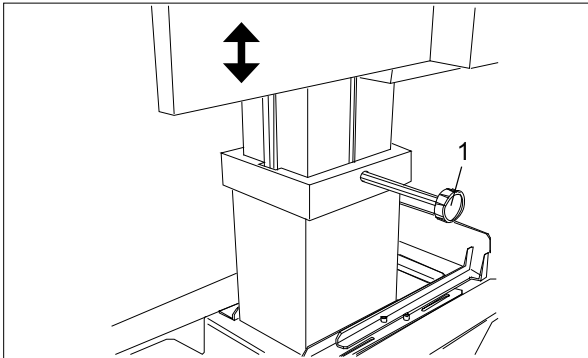

Fig. 90 Lock screw
1. Loosen the lock screw (Fig. 90/1) by turning it counter-clockwise.
3. Tighten the lock screw (Fig. 90/1) by turning it clockwise.